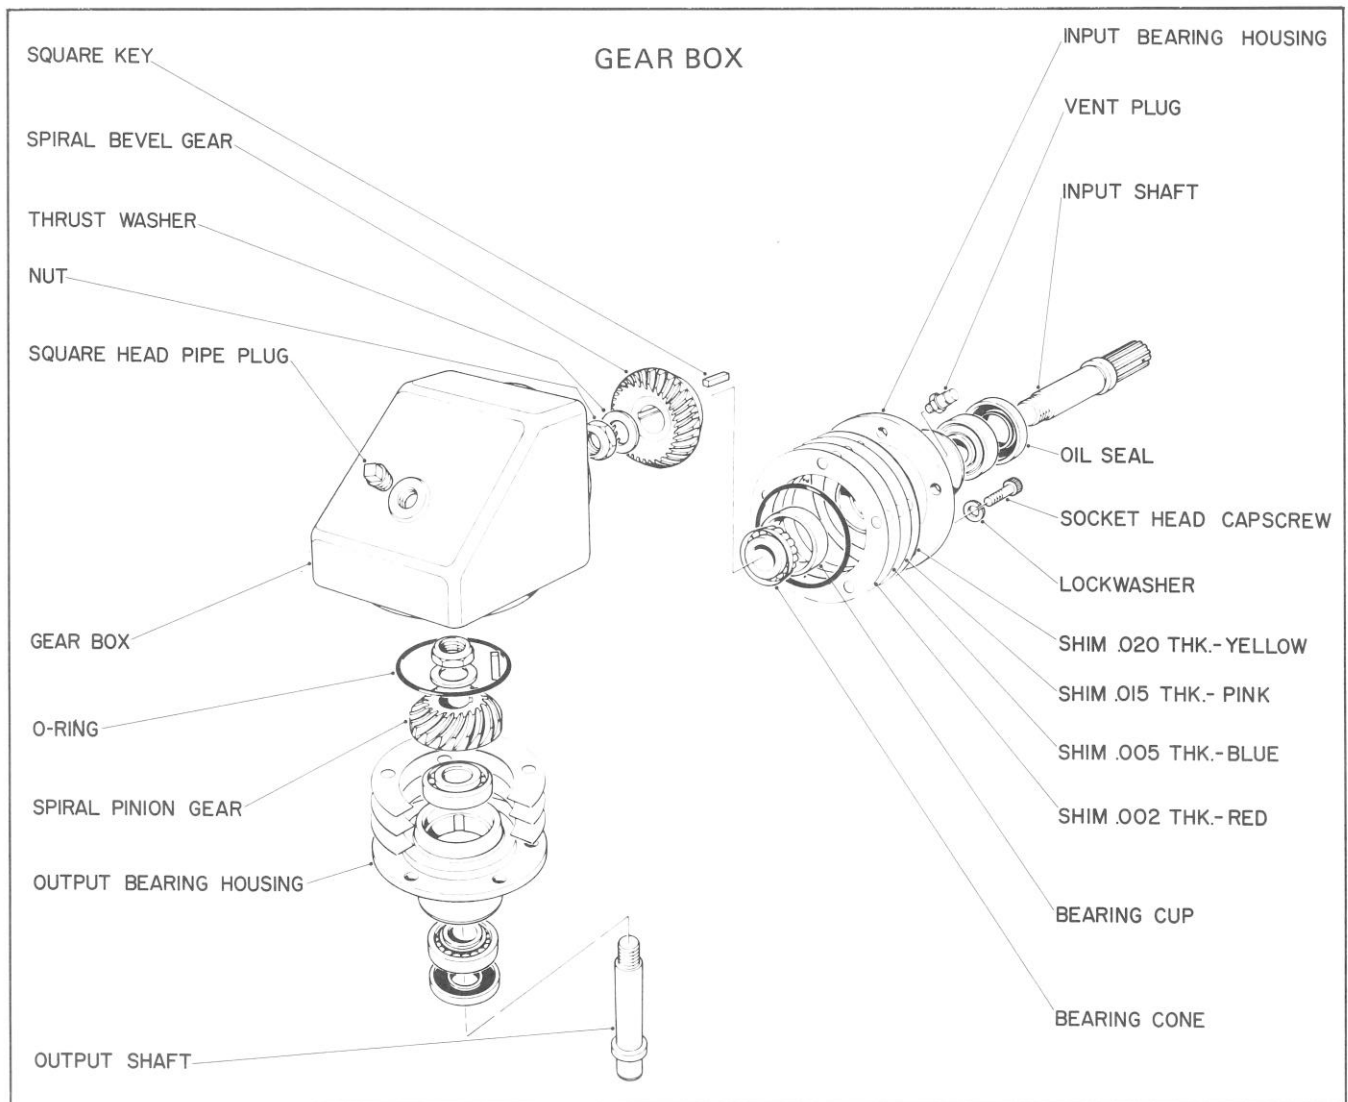
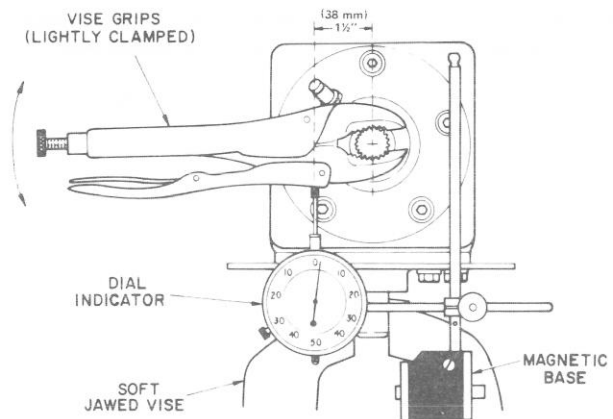

Figure 44
Figure 45
2. Remove pipe plug from gear box and drain oil out of gear box (Fig. 44).
1. Remove five (5) capscrews securing input housing assembly; tap input housing with soft-faced hammer and pull on input shaft to remove from gear box (Fig. 44).
2. Remove five (5) capscrews securing output bearing housing to gear box, tap housing with soft-faced hammer and pull on output shaft to remove assembly from gear box (Fig. 44).
4. Use a bearing separator to remove gear from shaft. Remove square key (Fig. 44).
5. Support mount flange of input housing in arbor press and press shaft, threaded end up, out of housing (Fig. 44).
7. Use procedures 3 through 6 to disassemble the output shaft assembly (Fig. 44).
8. Discard and replace the shaft, nut, shaft seal and housing O-ring for both assemblies (Fig. 44). Discard and replace all worn and damaged parts.
1. Press bearing cups into bearing housing with small I.D. of cups toward inside of housing (Fig. 44).
3. Press on the remaining bearing cone. Install square key and press on gear. Use Loc-tite 242 or 601 on shaft and gear. Install thrust washer and nut (Fig. 44).
5. Apply No. 2 Permatex to outer surface of seal, apply oil to seal lips and press new seal into housing with seal lips facing inward (Fig. 44).
1. Install shims on housing (Fig. 44).
2. Oil O-rings, install on housing (Fig. 44) and insert both shaft assemblies into gear box (Fig. 44).
4. Clamp the output shaft of gear box in a soft-jawed vise, lightly clamp a pair of vise-grip pliers to the input shaft, mount a dial indicator with magnetic base to the vise, move vise grips up and down and check input gear backlash (Fig. 45). Backlash should be .005-.010 inch (0.13-0.25 mm) with indicator positioned one and one-half inch (38 mm) from center of shaft (Fig. 45). If backlash is incorrect, remove input housing assembly and add or subtract shims as necessary. Repeat procedures until correct backlash is obtained. Shims are available in .002, .005, .015 and .020 inch (0.051, 0.13, 0.38 and 0.51 mm) sizes (Fig. 44).